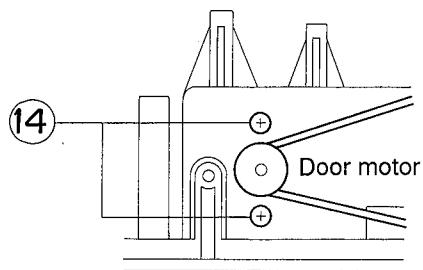

Fig. 5-41
- Remove the two screws (14) retaining the door motor from the side face, and dismount the door motor and pulley. (See Fig. 5-41)
- Remove the four screws (15) retaining the shield and CD mechanism holder, and dismount the mechanism holder.